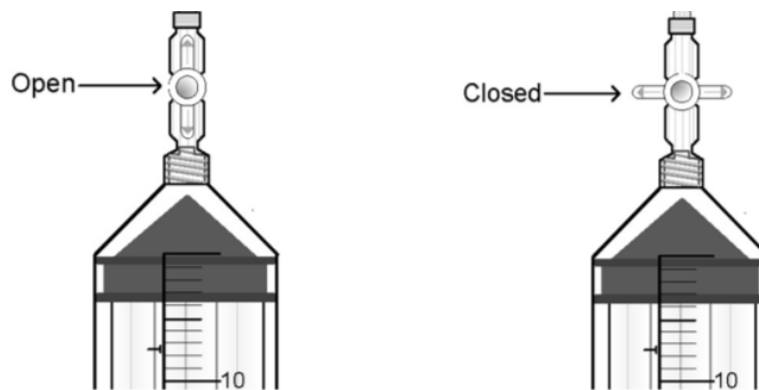
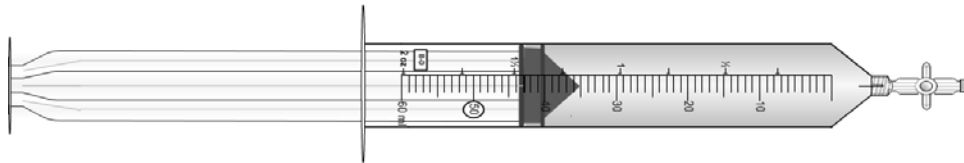

Figure 8. Example of a syringe and stopcock in the "open" and "closed" positions
Figure 9. A syringe with a 40 mL water sample
17. RINSE: Place the syringe tip (with 1-way stopper attached and turned to open; Figure 8) into the stream so that you are sampling the water ~10 cm under the surface of the water. Pull in ~20 mL water and remove syringe from stream. Rinse the syringe by pulling the stopper all the way back (without removing it) and shake. Expel the rinse water downstream or onto the bank. Repeat.
18. **SAMPLE:** Put the syringe tip back into the water, below the surface, and pull the plunger until the syringe is completely full. Remove the syringe and tap the sides of the syringe firmly with your hand/fingers to remove the air bubbles. EXPEL water, leaving approximately 1 mL in the syringe, which will help reduce air intake on the next sampling. Put the syringe back in the water, expel the final 1 mL of aerated water below the stream surface, and slowly fill to the 40 mL mark, being careful not to entrain any air bubbles (Figure 9). Immediately turn the 1-way stopper to the closed position before removing the syringe from the stream (Figure 8). Take 5 separate syringe samples all within the main flow of water. Place the syringe in a small cooler to help maintain stream temperature at time of collection.